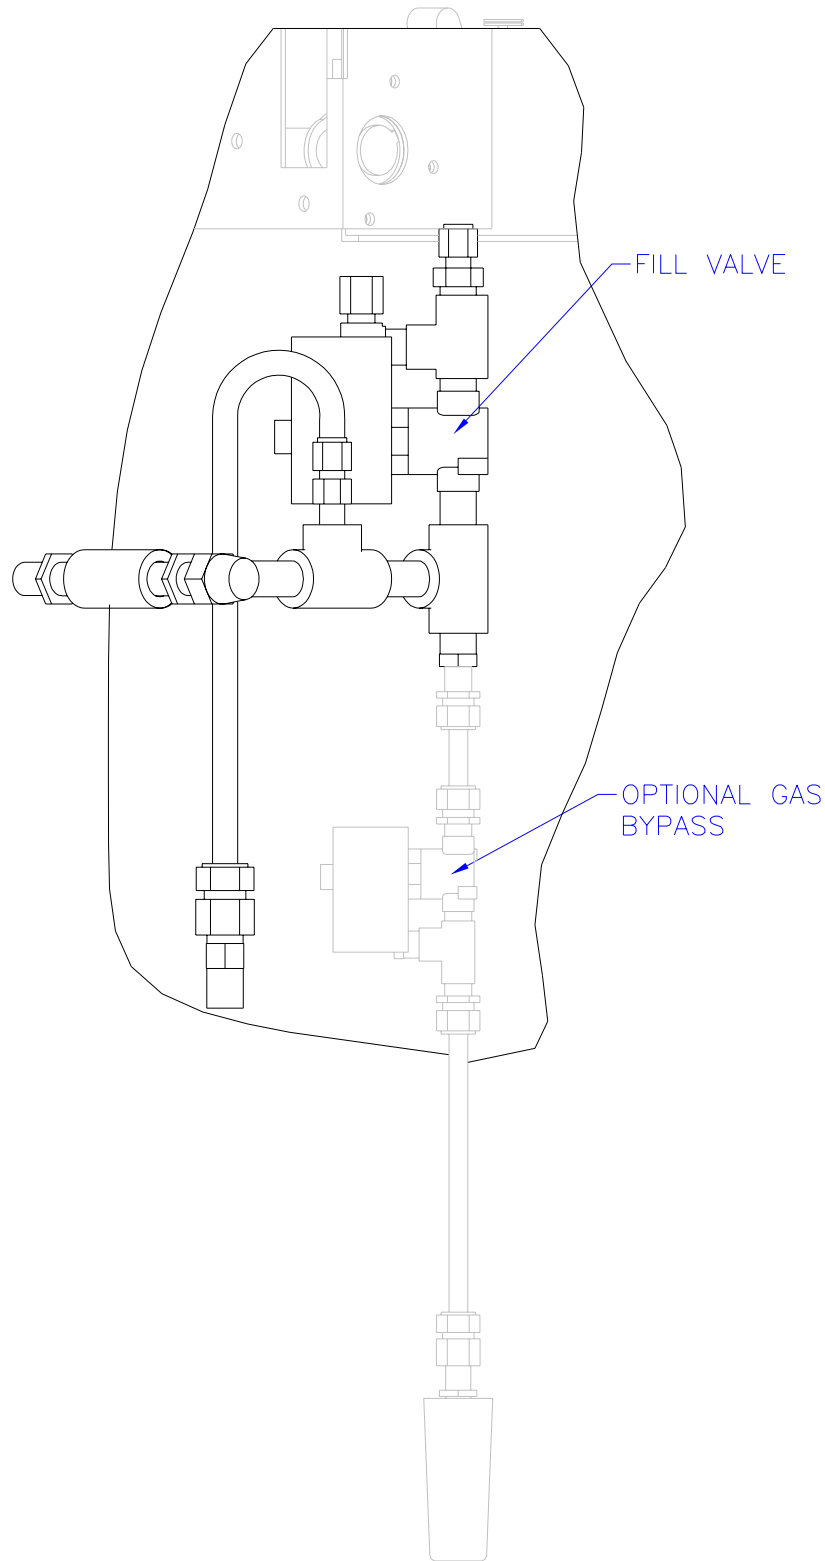
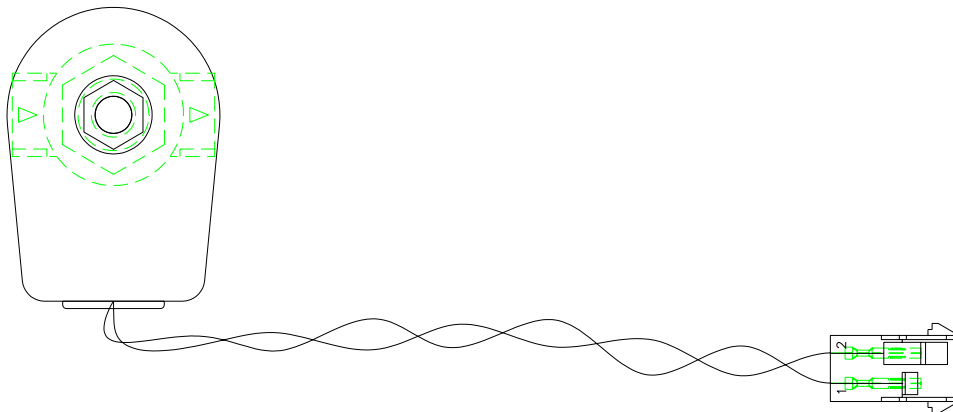

Figure 2, PLUMBING ASSEMBLY DETAIL
Figure 8, NEW FILL VALVE ASSEMBLY
21. Remove the existing fill solenoid valve (Reference Figure 2 and Figure 6) and replace with the new fill valve assembly provided (Reference Figure 8).